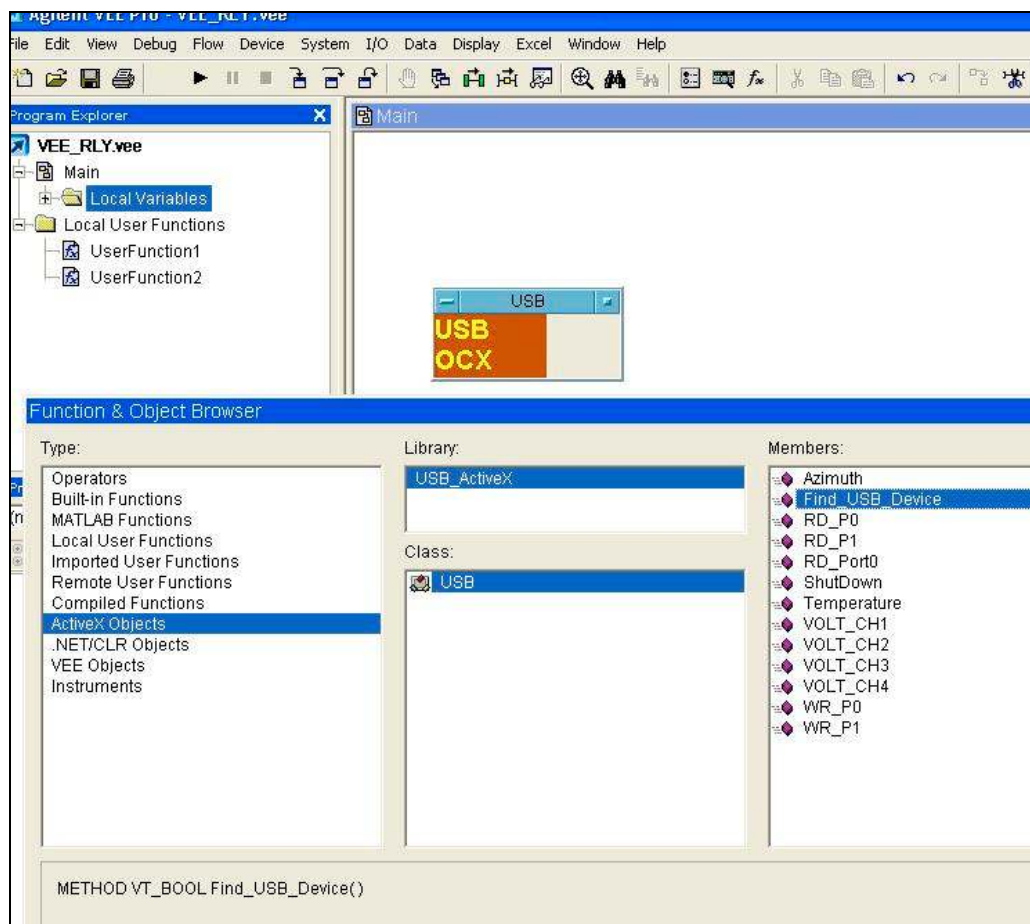

Figure 5.
6. You are now ready to talk to the hardware via USB.OCX. Go to "Device" in the pull-down menu, select "Function & Object Browser" and select "ActiveX Objects" from the "Type" box. Our USB.OCX is listed here. Select it and select the required function/method. For example, if you select "Find_USB_Device" this method will tell you if the attached USB hardware is found by your software. See Figure 5 below.